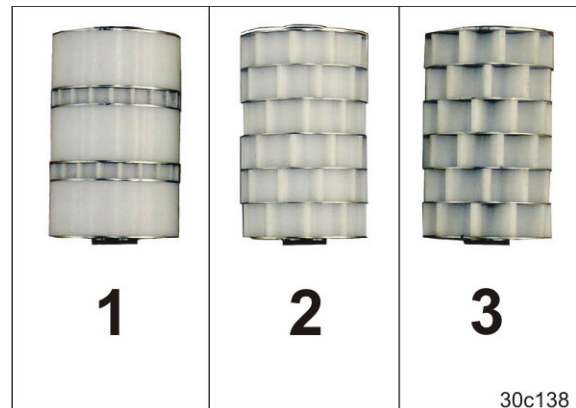

Fig. 64
- Fine dosing roller (Fig. 64/1) for fine seeds.
- Medium dosing roller (option, Fig. 64/2) for medium-sized seeds with the medium output levels
- Coarse dosing roller (Fig. 64/3) for coarse seeds and high application rates